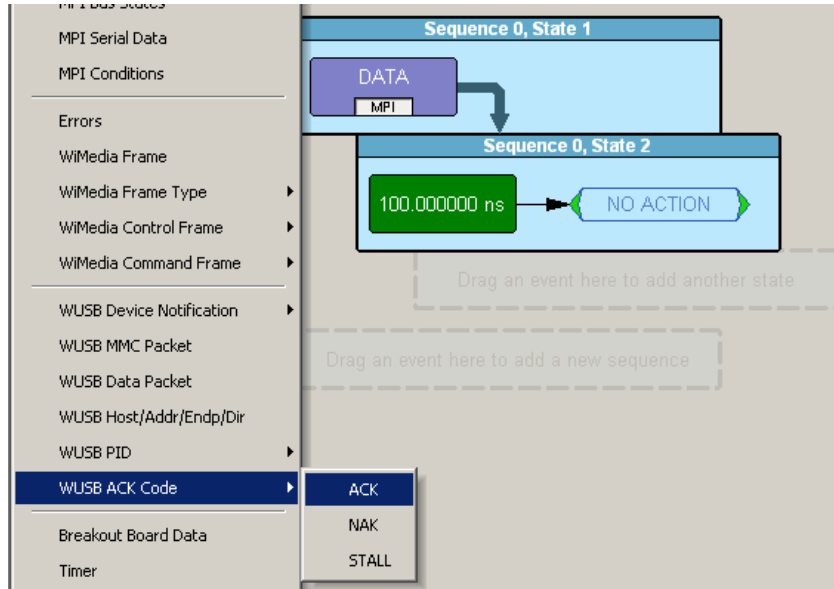

Figure 7.36 Example 5: Creating Another Event, Second State
Step 10 Click the **New Event** button. From the drop-down menu, select **WUSB ACK Code > ACK** to create an ACK button in the Available Events area (Figure 7.36).